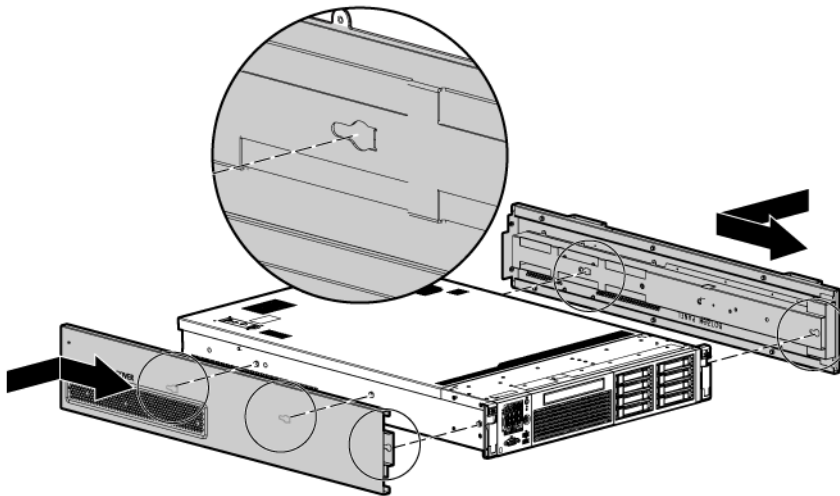

Figure 9: Installing the pedestal bottom piece
1. Align the holes in the pedestal component with the posts on the server. See **Figure 9**.